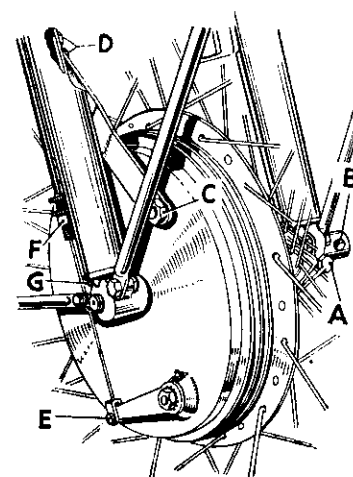
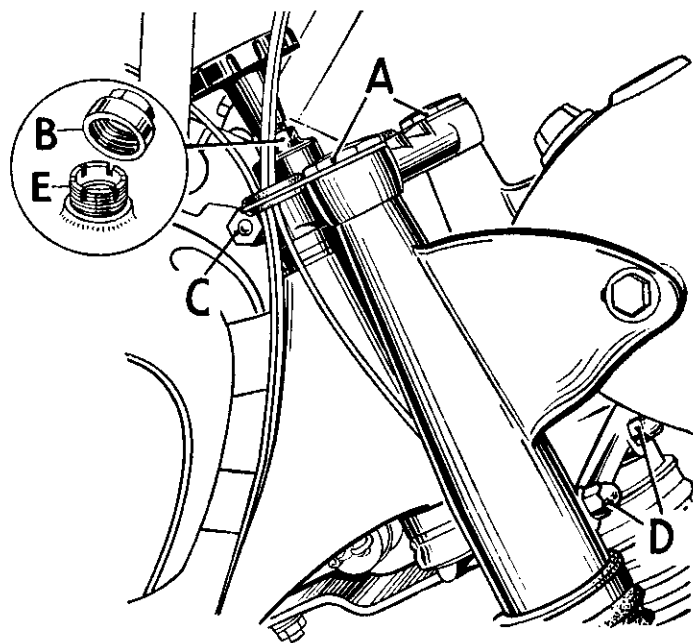

FIG. 25. Front wheel removal. (Thunderbolt and Royal Star only).
FIG. 28. Steering head adjustment.
Finger adjusters are provided at both ends of the brake cable. One is mounted on the cable abutment on the brake plate at (F) Fig. 25, and can be adjusted after slackening the ring-type locknut. Relock this nut after any adjustment has been made.
First disconnect the brake cable by withdrawing it from the slotted clevis at (E) Fig. 25, and unscrewing it from the bracket at (F). Remove the torque arm nut (C), slacken nuts (D) and the pinch bolt (A). Insert a tommy bar in the hole in the head of the spindle at (B) and unscrew the spindle, noting that it has a left-hand thread and therefore unscrews in a clockwise direction. Support the wheel as the spindle is withdrawn, and when it is clear the wheel can be pulled away from the right-hand fork leg and removed from the machine.
Remove the cap nut (A) Fig. 28, and the drain screw (G) Figs. 25 and 26 in the lower end of the fork sliding member.
Unscrew the steering damper and remove the top cap (B) Fig. 28. Slacken the clamping nuts (C) and (D), then tighten down the sleeve (E) until the adjustment is correct. Hold the handlebars lightly and move them round slowly. The steering should be free, and the forks must rotate smoothly. If the movement is "lumpy" it is a sign that the adjustment is too tight, or that the ballraces are damaged. When the adjustment is correct tighten the clamping nuts (C) and (D), replace the cap (B) and the steering damper.